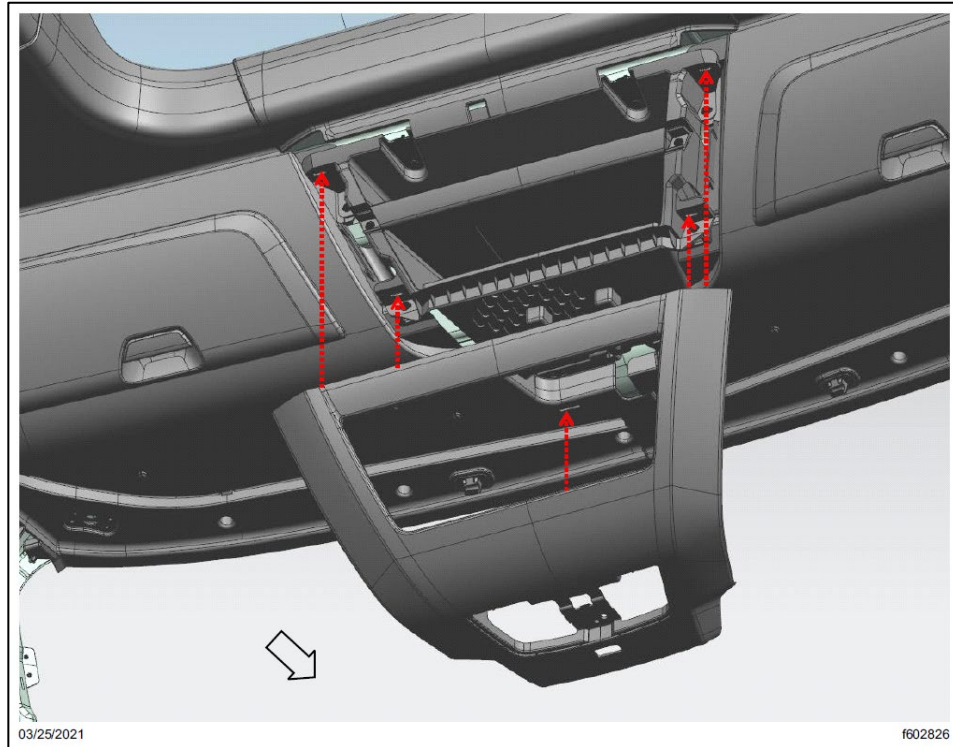

Fig. 68, Position and Attach the Center Bezel
14.7. Place the center bezel by inserting the pillar clips into the slots in the center overhead storage bin, and LH and RH side overhead storage cabinets. See Fig. 68.